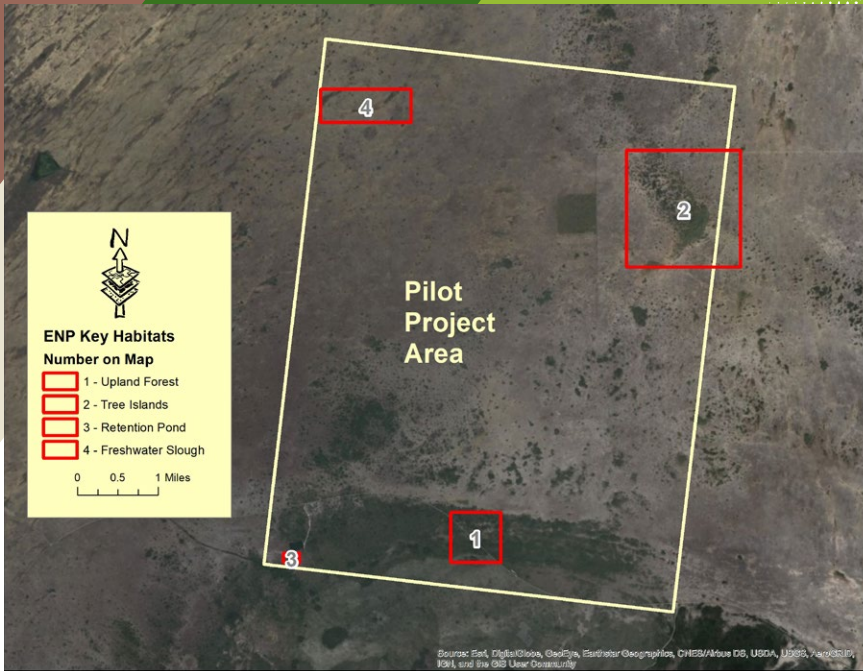

Figure 3: Everglades National Park pilot area showing acquisition plan.
water), and (4) freshwater slough/prairie, were chosen as representative habitats, including critical vegetated wet prairie, marsh, and tree island habitats for nesting seaside sparrows. The 33-square-mile area of interest (AOI) (**Figure 3**) was selected and the pilot project acquisitions were performed between May and June of 2016. The National Oceanographic and Atmospheric Administration (NOAA) conducted the VQ-880-G mission and Leading Edge Geomatics conducted the Titan mission.